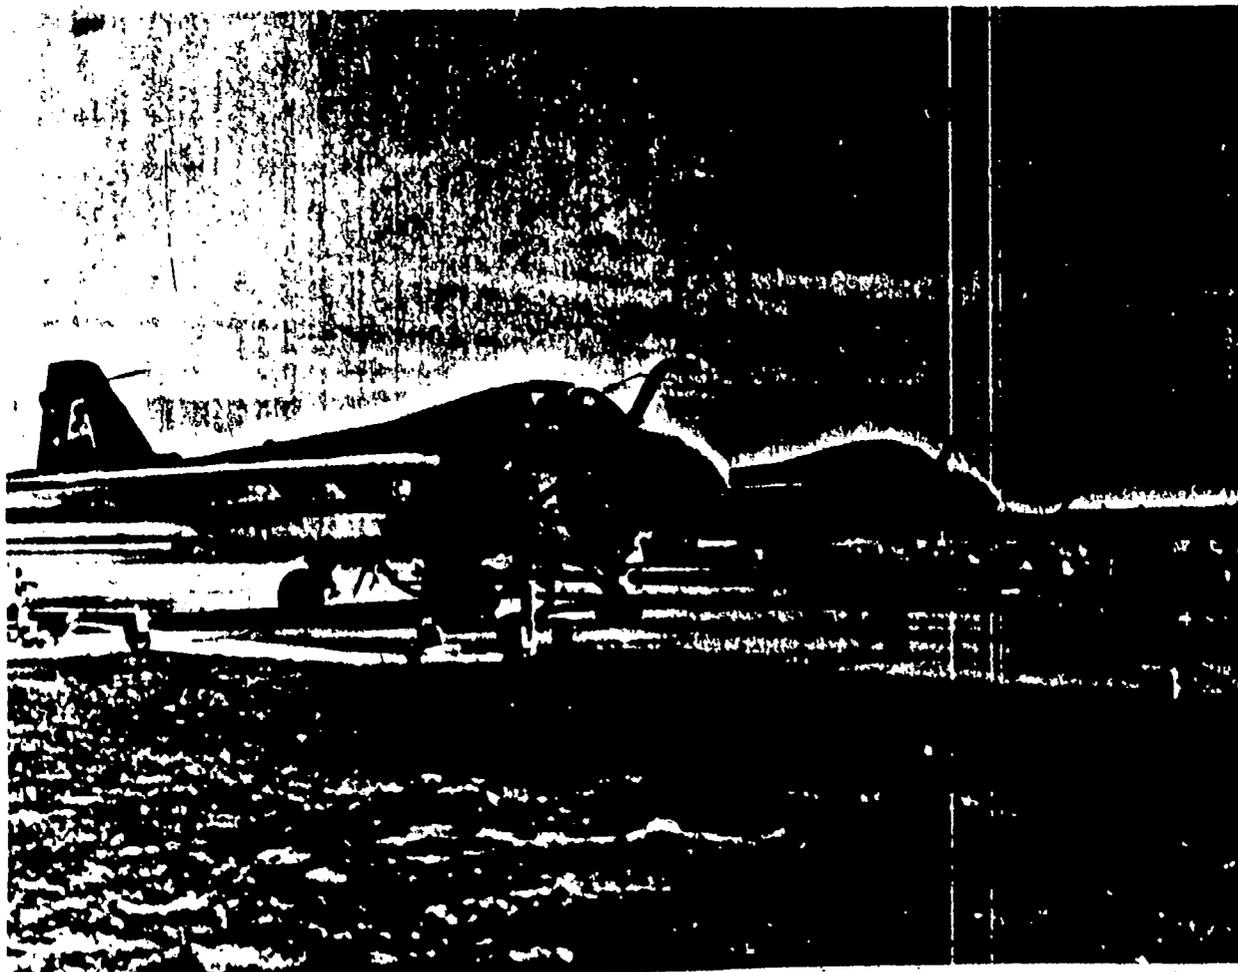

Fig 2-15. Refueling the A-6 aircraft.
• Refueling. The procedures that were used for TAFDS are the same. Both standard and hot refueling are routinely handled. The difference will mainly be the apparatus that the nozzle and hose are attached to. This may be just a fixture coming out of the ground, or a long hose from the stationary equipment. In any case, you will need to familiarize yourself with the operating characteristics of the system you are using. Figure 2-15 shows refueling operations on the A-6 aircraft using this system. As in TAFDS, you should familiarize yourself with the aircrafts that need refueling and their characteristics.